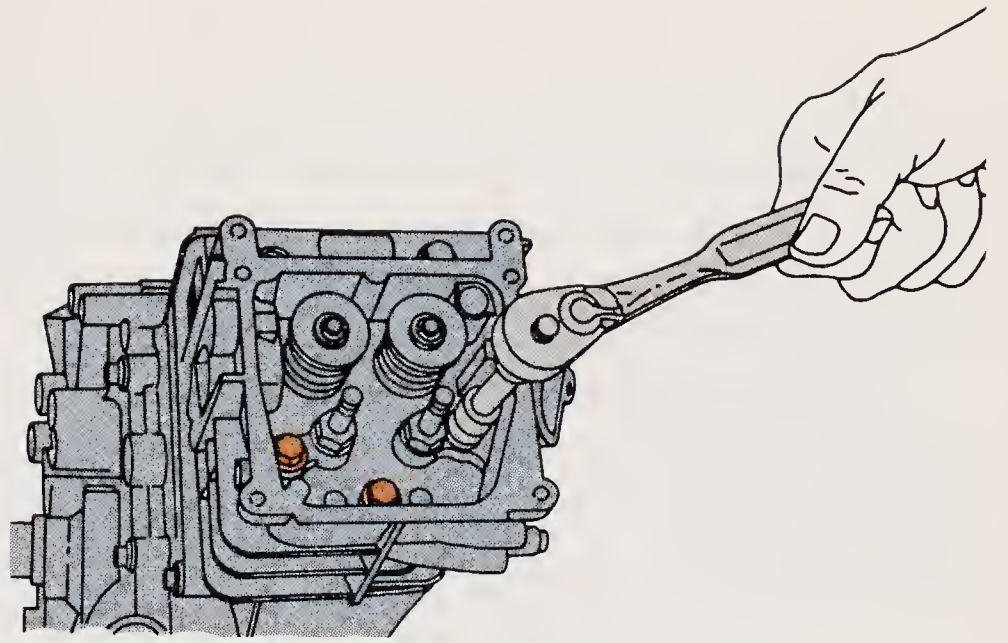

Figure 17-74. Remove cylinder head by removing head bolts evenly and in slight increments. (Briggs & Stratton Corp.)
5. Remove the cylinder head bolts and the cylinder head. See **Figure 17-74**.